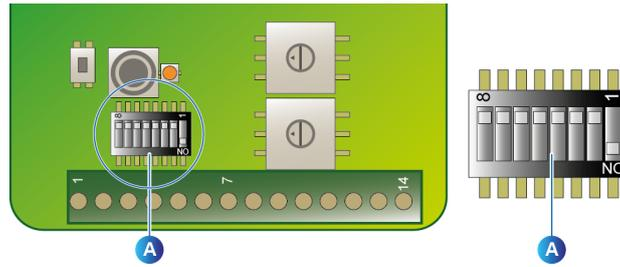

Figure 48: micro switch configuration on the *OLCT 80*.
- Position the microswitches as shown below (Figure 48, A) on the wireless card of each *OLCT 80*: